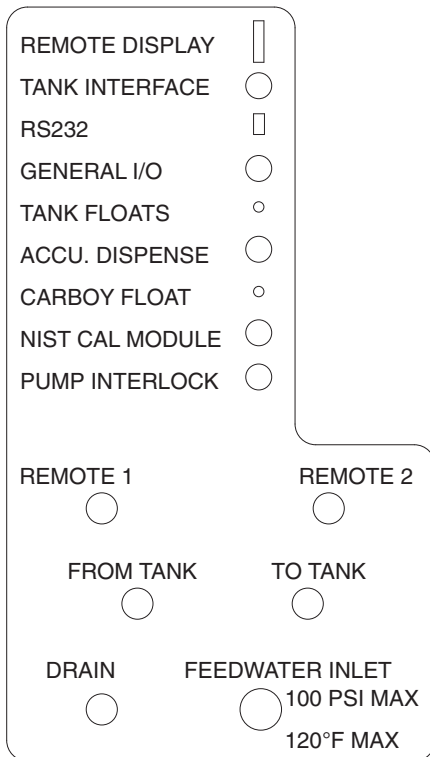

Figure 8: Water and Electrical Connections on Diamond TII
2. Two tubes are included with the Diamond TII to connect the water system to the storage reservoir. They connect from the “TO UNIT” and “FROM UNIT” connections on the reservoir manifold to the “FROM TANK” and “TO TANK” connections on the system manifold. See Figure 8. **IMPORTANT:** The tube with the integral quick disconnect must be connected between the “TO UNIT” and “FROM TANK” ports.
1. Attach tubing to Fast & Tite® fitting on Diamond TII Storage Reservoir. See Figure 8 for connection details.